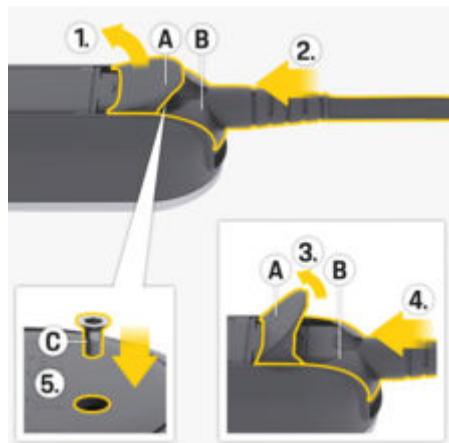

Fig. 32 Securing the supply cable and plug
1. Open cover **A** (Fig. 32) by around 15 degrees (only as far until plug **B** (Fig. 32) fits in the control unit).
2. Insert plug **B** (Fig. 32) into the control unit until you feel initial resistance.
3. Fully open cover **A** (Fig. 32).
4. Push plug **B** (Fig. 32) in fully.
5. Fully close cover **A** (Fig. 32) and fasten using screw **C** (Fig. 32).